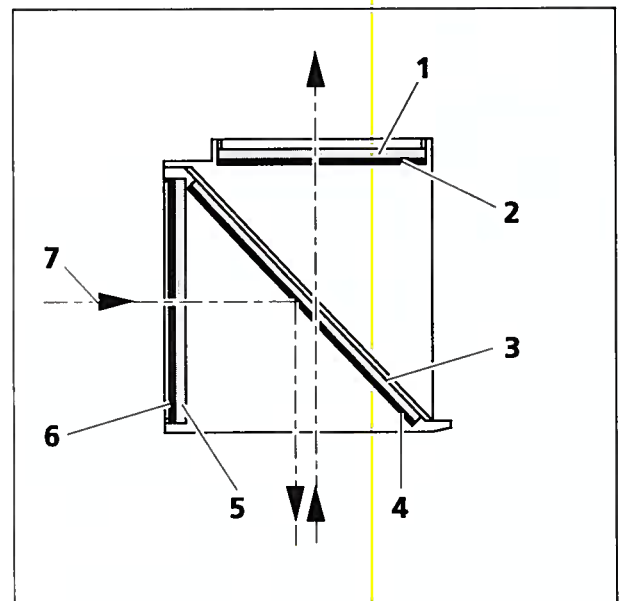

Fig. 6-11 Installing the filters and beam splitter
- Filters with a reflective, dielectric coating must be mounted so that the reflective coating (Fig. 6-11/6) of the excitation filter (Fig. 6-11/5) points outwards (in relation to the reflector module). With the emission filter (Fig. 6-11/1) the reflective coating (Fig. 6-11/2) should point inwards.
- The reflective coating (Fig. 6-11/4) of the beam splitter (Fig. 6-11/3) points downwards when mounted.
- The arrows (Fig. 6-11/7) mark the path of the illumination or imaging beam.